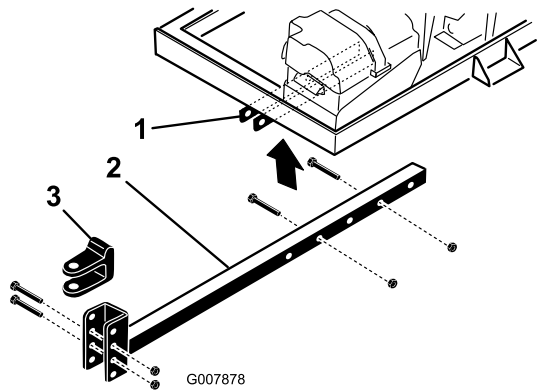

Figure 4
4. Secure the hitch tube to the frame brackets (Figure 4) with 2 bolts (3/8 x 3 inches) and 2 flange nuts (3/8 inch).
3. Insert the hitch tube into the frame brackets (Figure 4).